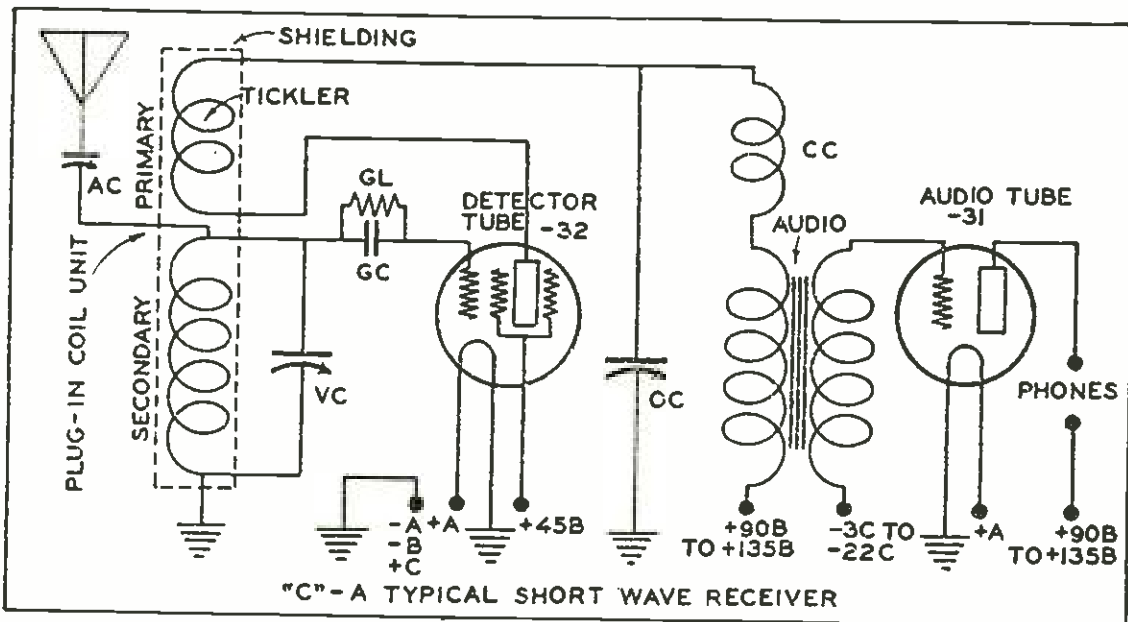
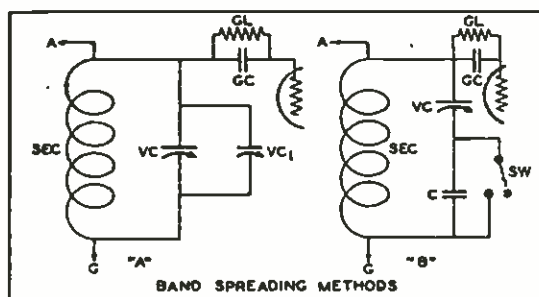

Figure 41
Figure 43
Typical Circuit At "C" Fig. 41 is shown the circuit of a typical two-tube short-wave receiver. It closely resembles the average small broadcast receiver. However, in order to obtain the necessary sensitivity these types of sets use the *feed-back* principle, as explained in Chapter Nine.
The variable condenser (VC Fig. 41) used to tune the secondaries of the r.f. transformers or plug-in coils, has a maximum capacity of .00014 microfarad. The tiny antenna condenser (AC) is about 35 mmfds. capacity. The choke coil
At "A" Fig. 43, the secondary winding of the plug-in r.f. coil that was used in the short-wave receiver shown in "C" Fig. 41 page 59, will be seen, but the remainder of the circuit is not indicated. The band spreading operation is confined entirely to the tuning coil and its condenser. The tuning condenser (VC) is shown in "A" Fig. 43.
In order to eliminate the use of the variable condenser VC, with its tuning requirements, the method shown at "B", Fig. 43, may be used. A small, fixed condenser (C) is connected in series with the tuning condenser VC. It is shunted with a switch so it can be cut in or out of the circuit at will. It is known that if two condensers are connected in series the capacity of both will be greatly reduced. The capacity of C, in our short-wave circuit, should be about .0005 (50 mmfds.) mfd. Now, when C is in the circuit, VC will have the capacity of a much smaller condenser, and stations tuned in by it will be more widely separated on the dial of VC.